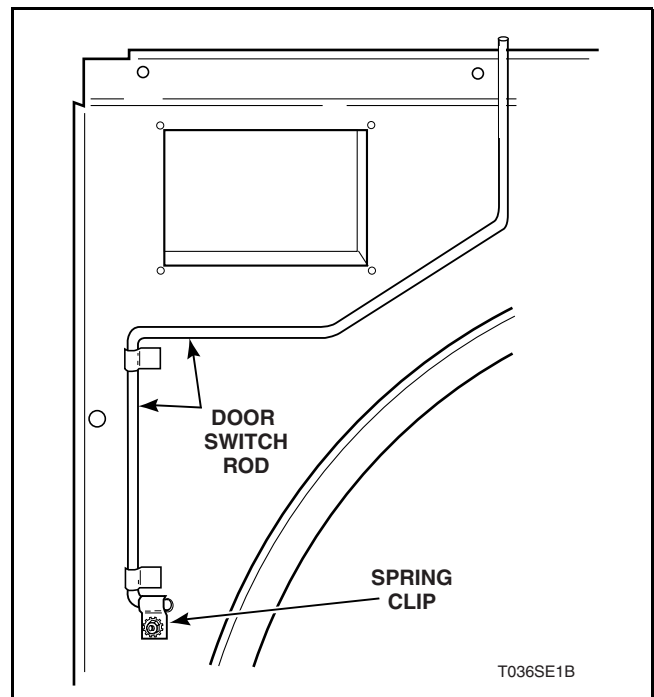

Figure 26
- Apply upward pressure on the welded clip to allow switch rod snap free. Refer to *Figure 26*.